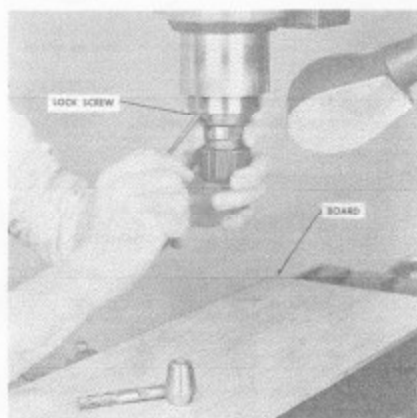

Fig. 36. Mounting collet holder in spindle.
It is a good plan to place a board over the milling machine table as shown in Fig. 36 when mounting tools or accessories in the spindle. The board will protect the table and tools from damage in case tools are accidentally dropped. It also provides a handy place to lay tools.
- Unscrew the two lock screws (Fig. 36) until they no longer project inside the spindle hole.